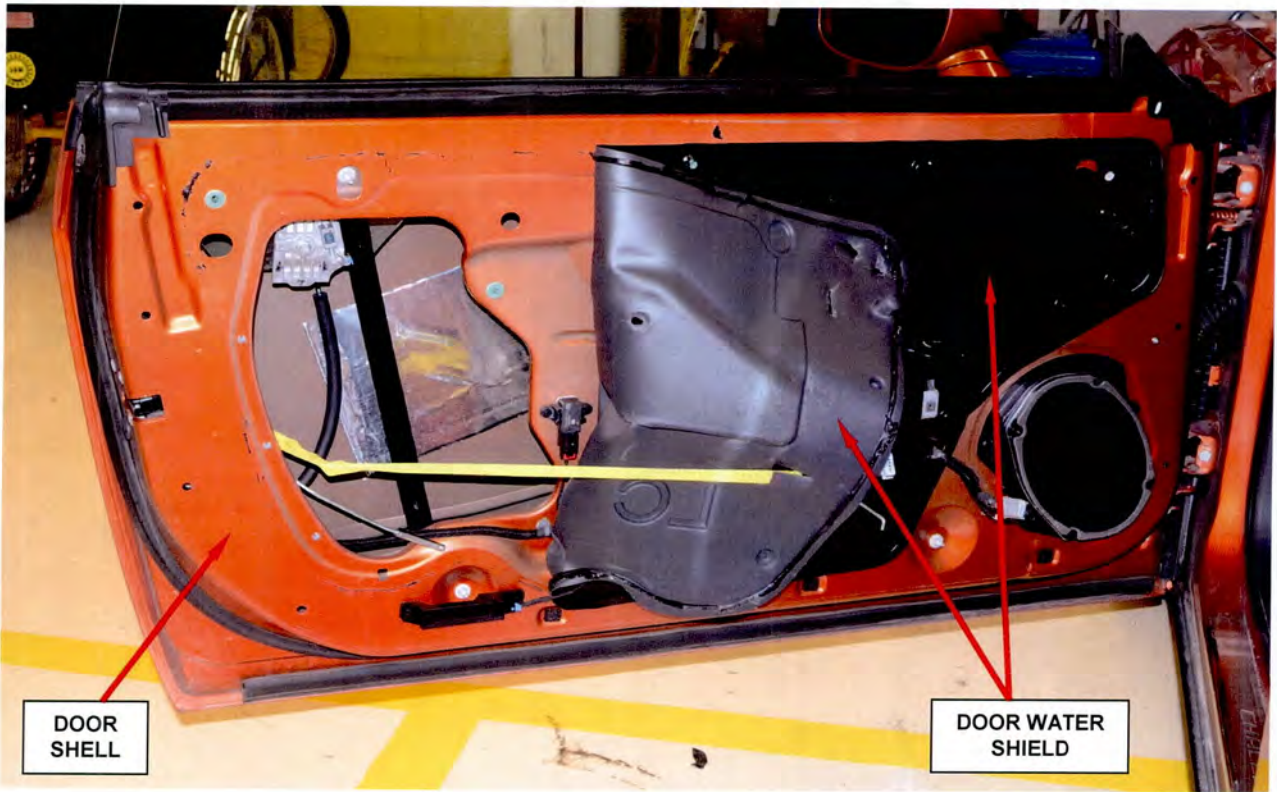

Figure 4 – Door Water Shield
- Partially pull the rear half of the door water shield back to gain access to the door latch area (Figure 4).
10. Place the door water shield back into position on the door shell (Figure 4).